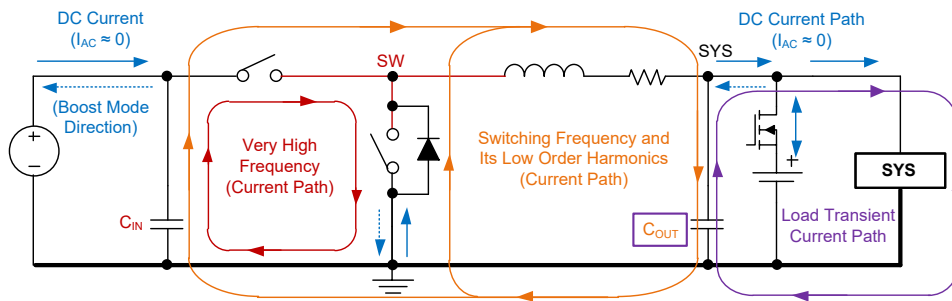

Figure 20. The Paths and Loops Carrying High Frequency, DC Currents and Very High Frequency (for Layout Design Consideration)
The switching node (SW) creates very high frequency noises, which are several times higher than f_{sw} (1.5MHz) due to sharp rise and fall of the voltage and current in the switches. To reduce the ringing issues and noise generation, it is important to design a proper layout for minimizing the current path impedance and loop area. A graphical guideline for the current loops and their frequency content is provided in Figure 20. The following considerations can help to make a better layout.